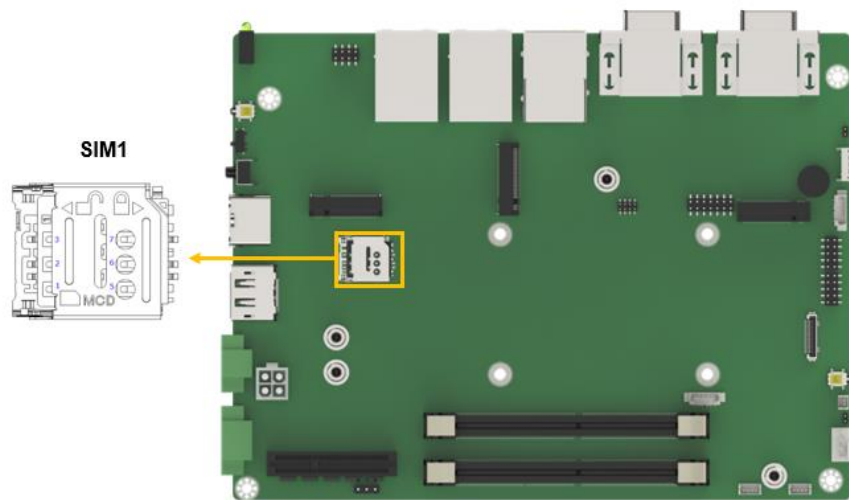

Figure 4-4: SIM card Connector Locations
- CN Location:** See **Figure 4-4**